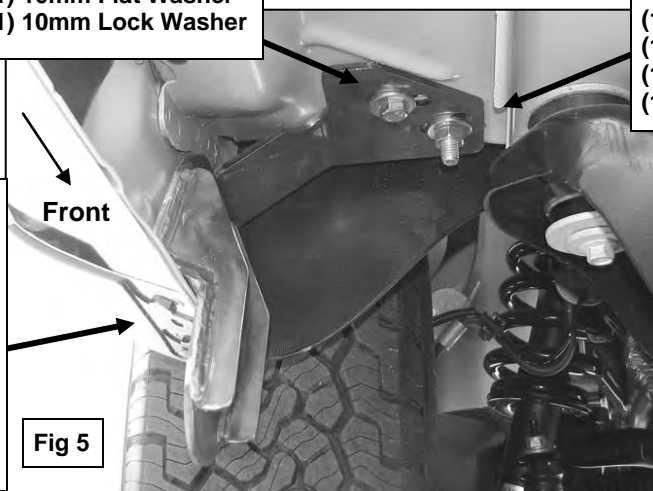

Fig 5
5. Align the holes in the pinch weld with the holes in the front Mounting Bracket. Insert (2) 8mm x 30mm Hex Bolts with (2) 8mm x 22mm OD x 1.5mm Large Flat Washers up from below and secure with (2) 8mm x 17.1mm OD x 1.3mm Small Flat Washers, (to clear the bracket), (2) 8mm Lock Washers and (2) 8mm Hex Nuts, **(Figure 5)**. Do not tighten hardware at this time.